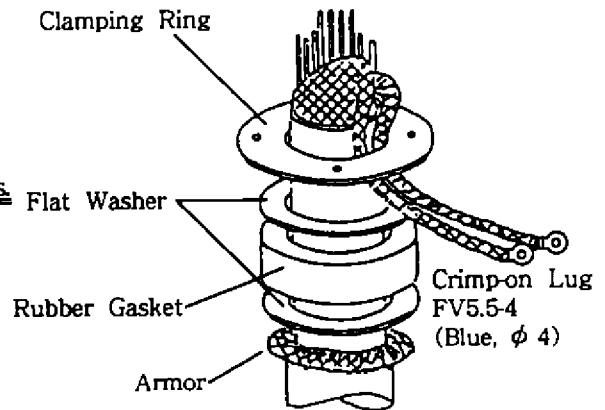

Figure 2-10
- 6) Referring to Figure 2-7 (RW-4873) or Figure 2-10 (RW-6895), pass the outer and inner shields between the signal cable and the clamping ring. Fasten the cable gland.